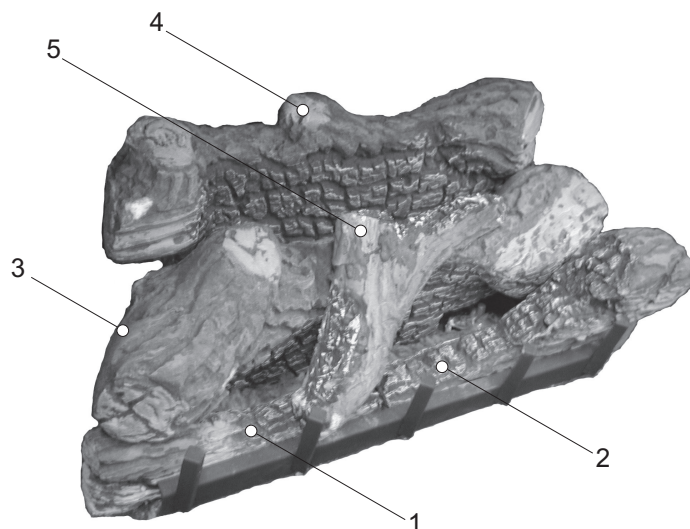
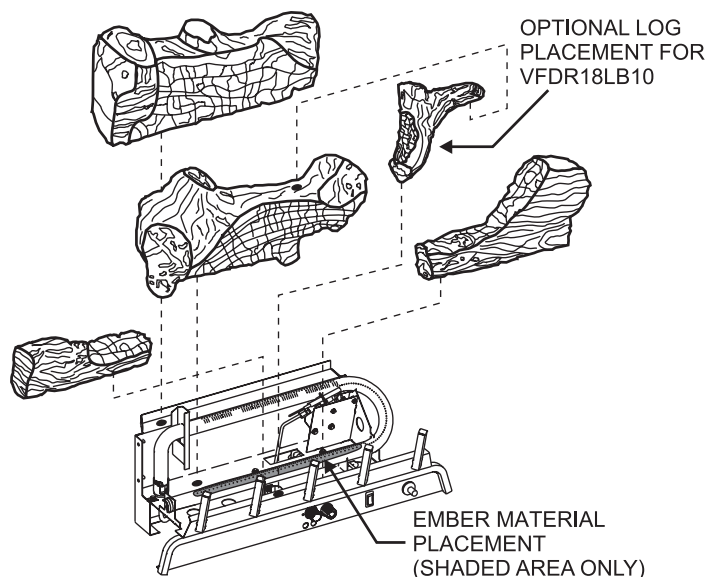

Figure 12
Figure 13
The positioning of the logs is critical to the safe and clean operation of this burner assembly. Sooting and other problems may result if the logs are not properly and firmly positioned on the burner assembly. Refer to **Figure 12** and **Figure 13** and corresponding **WARNING**: when completing following log placement instructions.
5. After all logs are positioned properly, apply Rockwool ember material to the front burner port area. To apply, carefully separate the ember material into small amounts no larger than "dime size" pieces. Fluffed up pieces one layer thick on top of the burner generally works best, and will provide the best ember glow. Do not place ember material more than one layer thick. No more than (2) two small packets of ember material (part no. 15998) evenly placed on the burner, is recommended on VFDR18 and VFDR24 models. Using additional ember material will decrease the amount of ember glow effect. Extra ember material should be saved for future ember applications as necessary. See **Figure 13**.
Attention: Do not use Figure 12 or Figure 13 to order logs. Refer to Parts Lists and Parts Views to order logs and/or ember material for your appropriate model.